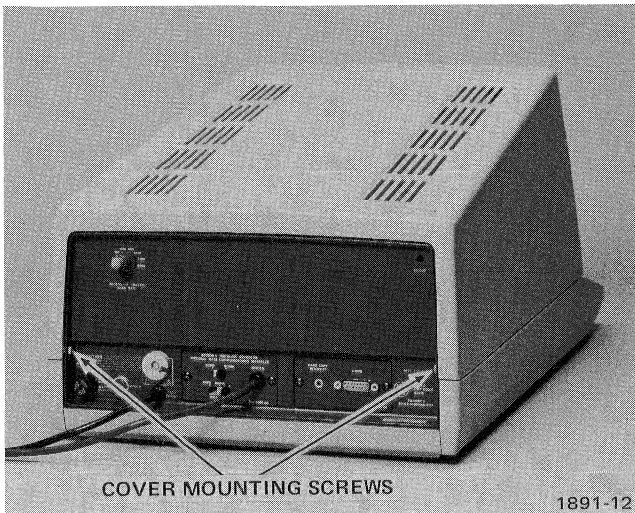

Fig. 4-1. Cover Removal.
1. Remove the two screws from the rear of the unit (see Fig. 4-1).
4. Replace the two cover locking screws through the rear panel (see Fig. 4-1).